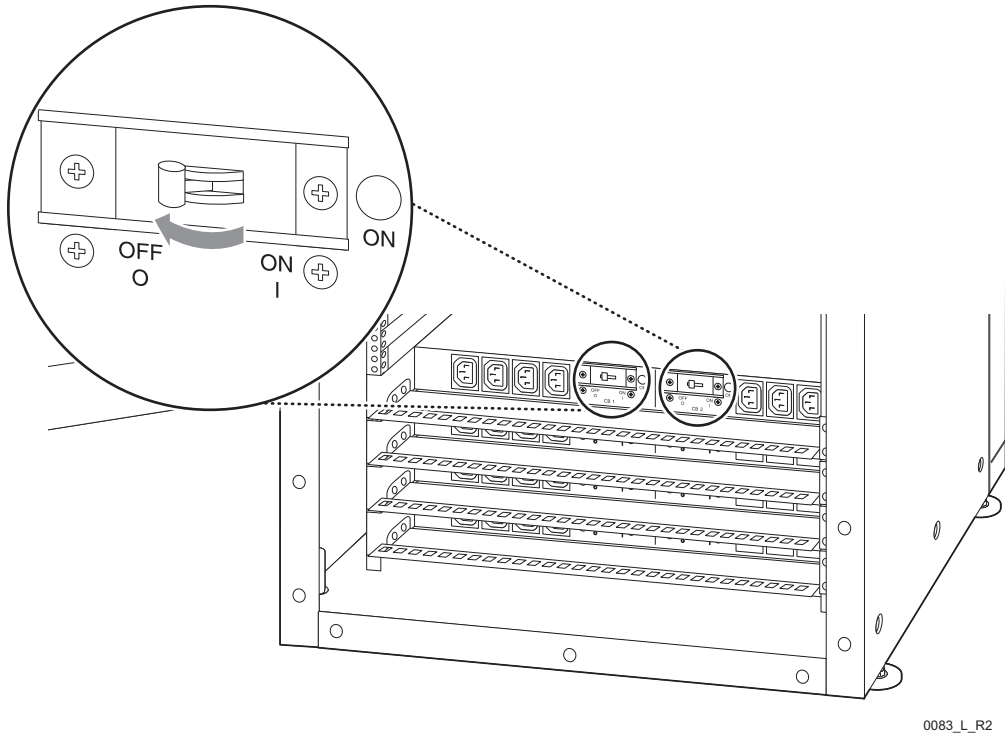

Figure 21-4. Setting the Power Breakers on the PDU to the OFF Position
- 3 Set the power breakers on the failed PDU to the OFF position (Figure 21-4), and unplug the PDU's main power cord.